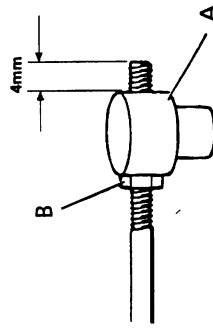

Fig. 7
- Thread the pivot (A fig 7) on to the rod until 4 mm of the rod protrudes (see fig. 7). Secure the pivot by tightening the nut (B fig. 7)
- Thread the pivot on to the rod until 4 mm of the rod protrudes (see fig. 7). Secure the pivot by tightening the nut. (B fig. 7)